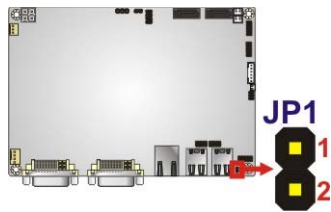

Figure 3-12: ME RTC Security Override Jumper Location
- Jumper Location:** See **Figure 3-12**